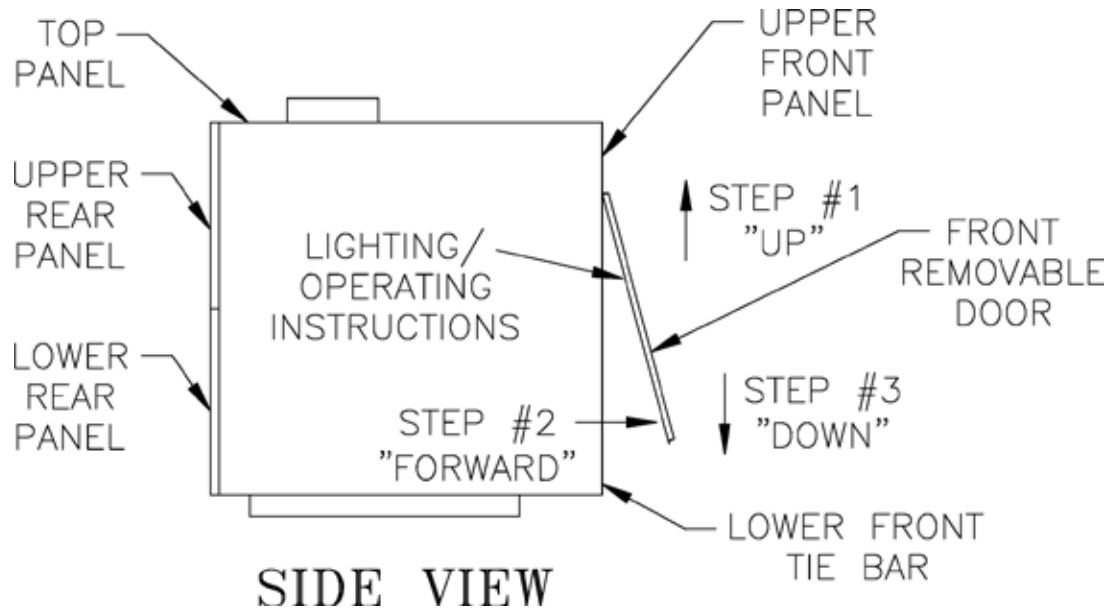

Figure 3: Jacket Front Door Removal
B. Instructions to place boiler in operation and to turn off boiler are shown on the Lighting or Operating Instruction label posted on the inside of the front removable door. See Figure 3 for front door removal instructions. Lighting and Operating Instructions are also shown in Figures 4 thru 6. Lighting and Operating Instructions vary with the type of control system furnished. Refer to Table 1 for the appropriate Figure.